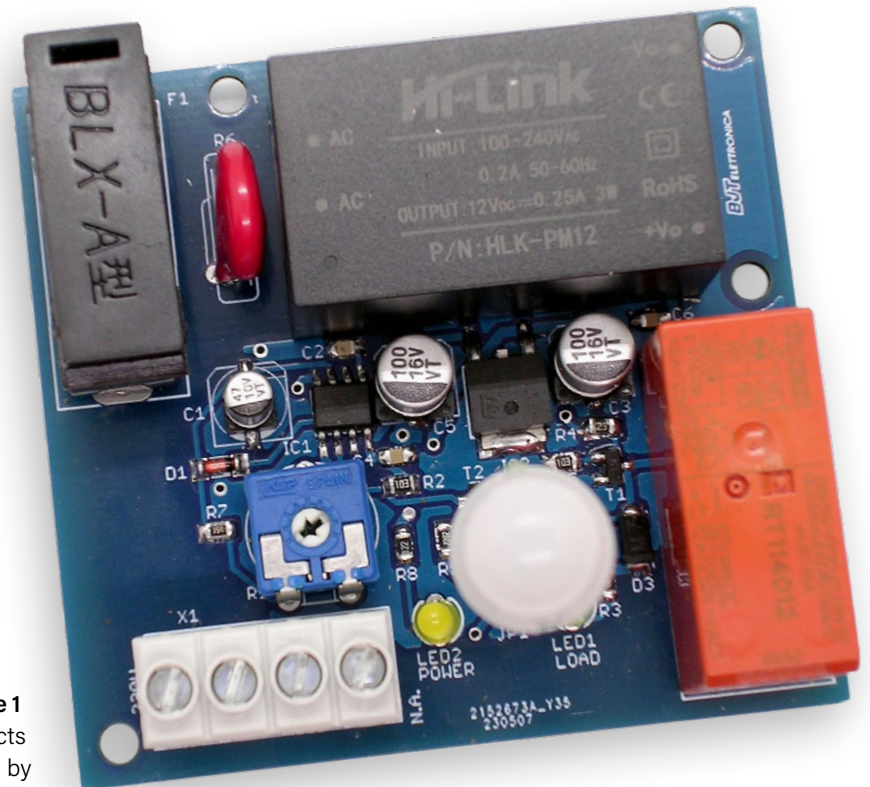

Figure 1: The finished prototype.
This passive infrared (PIR) switch project, shown in **Figure 1** as a finished prototype, uses a PIR sensor, which detects the non-visible infrared (IR) portion of the heat emitted by the human body. The sensor is mounted on a miniaturized HC-SR505 module, which includes the control electronics with a quiescent current of less than 50  $\mu\text{A}$ . The sensing angle is 100°, and the maximum range is 5 m. The module has a digital output line with active (High) level of 3.3 V and Low level at 0 V.
Let us now turn to the construction of the board, which is simple. The PCB is of the double-sided type with metallized holes; its layouts are available as PDF files in the downloadable materials.[1] As you can see from the completed prototype shown in Figure 1, most of the circuit components are SMD type, with some through-hole mounted elements. To this extent, take a look at the **Component List** frame, where the PCB is shown by its silkscreen side.